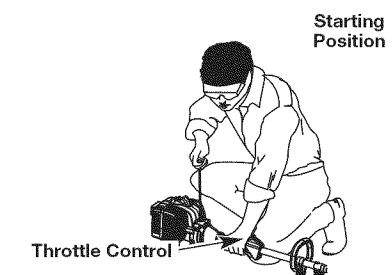

Fig. 10
WARNING: Avoid accidental starting. Make sure to be in the starting position when pulling the starter rope (Fig. 10). To avoid serious injury, the operator and unit must be in a stable position while starting.
5. Crouch in the starting position (Fig. 10). Do not squeeze the throttle. Pull the starter rope with a controlled motion until the unit starts.
5. Crouch in the starting position (Fig. 10). Do not squeeze the throttle. Place the Plug-In Power Start or Power Bit Start into the back of the unit. Refer to the *Operation* section of the Plug-In Power Start or Power Bit Start operator's manual.
6. Press and hold the ON (I) button of the Plug-in Power Start or Power Bit Start equipped drill in intervals no longer than 4 seconds each until the unit starts.
7. Wait and allow the unit to idle for 5 - 10 seconds. If the unit stops running during this time, squeeze the throttle control, then press and hold the ON (I) button of the Plug-in Power Start or Power Bit Start equipped drill in intervals no longer than 4 seconds each until the unit starts.